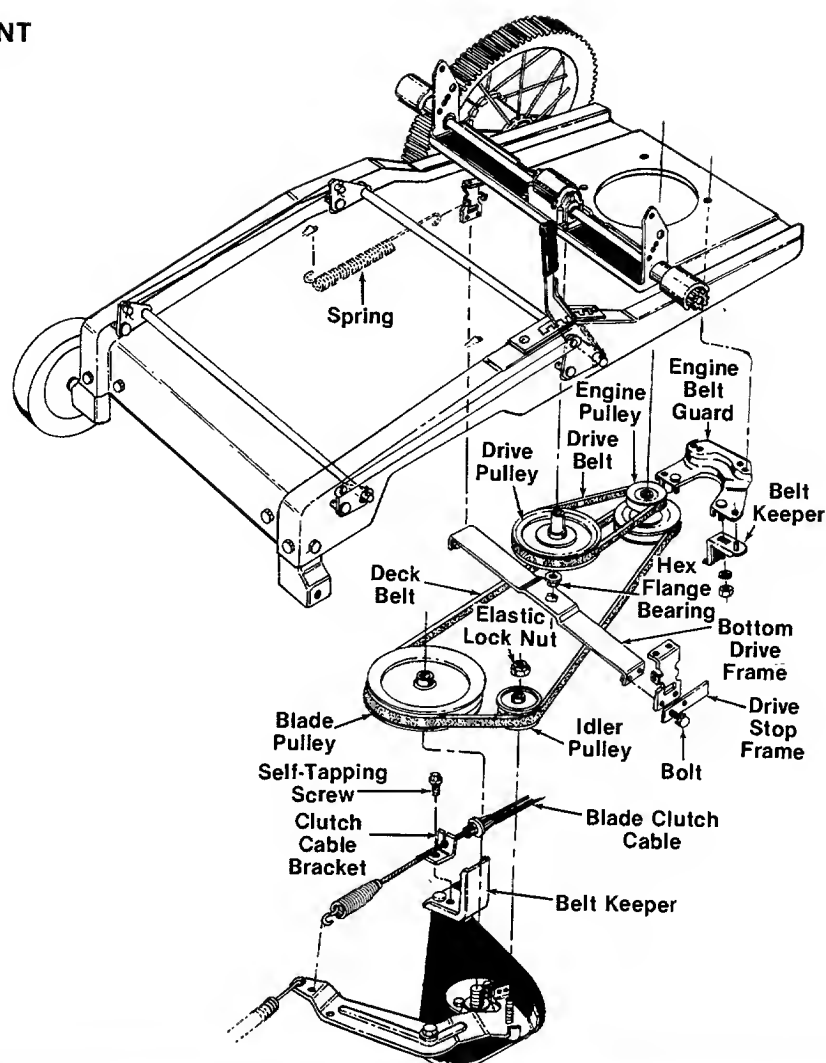

FIGURE 26.
Deck Belt (See Figure 26)
Upon reassembly, be certain the clutch cable bracket is assembled above the belt keeper as shown in figure 26.
Drive Belt (See Figure 26)
Upon reassembly, be certain the drive frame stops are assembled as shown in figure 26. Also, be certain the hex flange bearing is assembled on the shaft beneath the drive pulley and through the drive frame. Operating the unit without the bearing in place will cause damage to the unit.
4. Unhook the two springs from the frame as shown in figure 26.